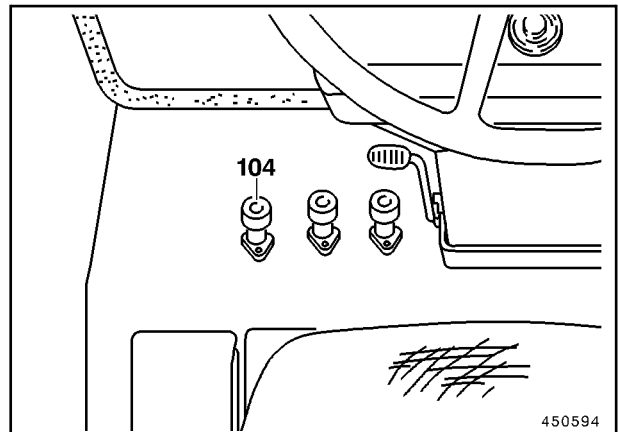
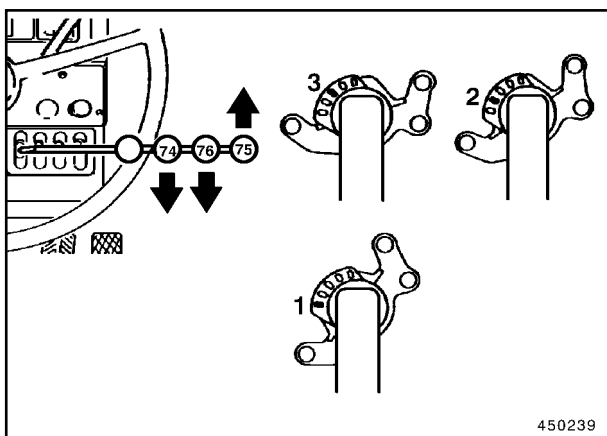

Fig. 5
Fig. 7
- Depress button (104, Fig. 5) and hold. The locking pin is disengaged by means of a hydraulic cylinder.
- Retract blade swivel cylinder with control lever (74, Fig. 7) completely before setting the blade with control levers (75 and 76) on the ground to relieve the hydraulic system.
To do so, depress button (104, Fig. 5) and hold. The locking pin disengages from the arm.
- Bring the swivel arm to one of the desired positions 1, 2 or 3 by means of control levers (74 - 76, Fig. 7). Release button (104, Fig. 5) shortly before reaching the desired position. The locking pin engages the corresponding detent by spring force.